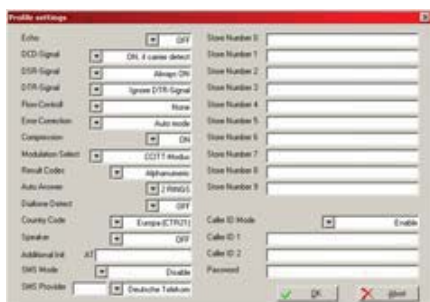

Fig. 228: Profile settings
4. Configure the settings shown in (Fig. 228) for the modem to accept an incoming call for remote configuration.